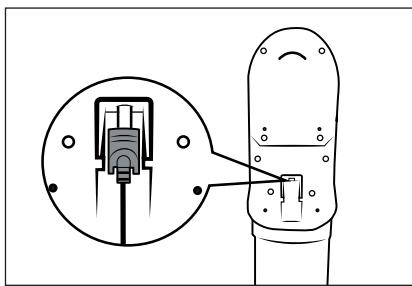

Fig. 8
- Recharge the battery **②** as soon as the battery indicator **⑥** shows a low remaining charge of the battery **②** .
- The appliance switches off shortly after an empty battery **②**  is displayed.
- The vacuum cleaner can also be charged directly via the mains adapter **⑩**. To do this, remove the barrel plug **11** from the wall bracket **18** by turning it slightly and insert it into the charging socket **3** on the appliance (see Fig. 8).